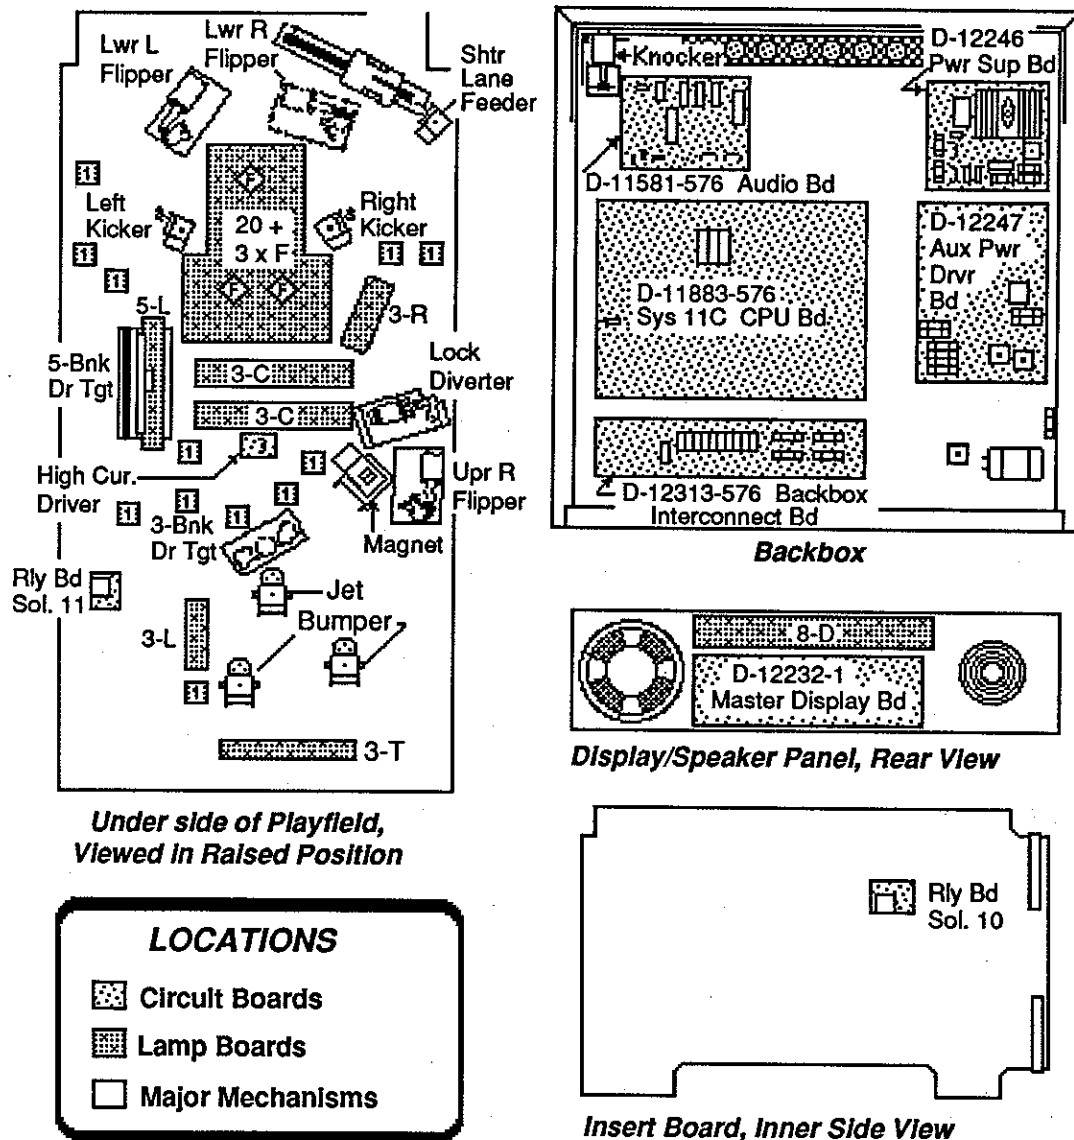
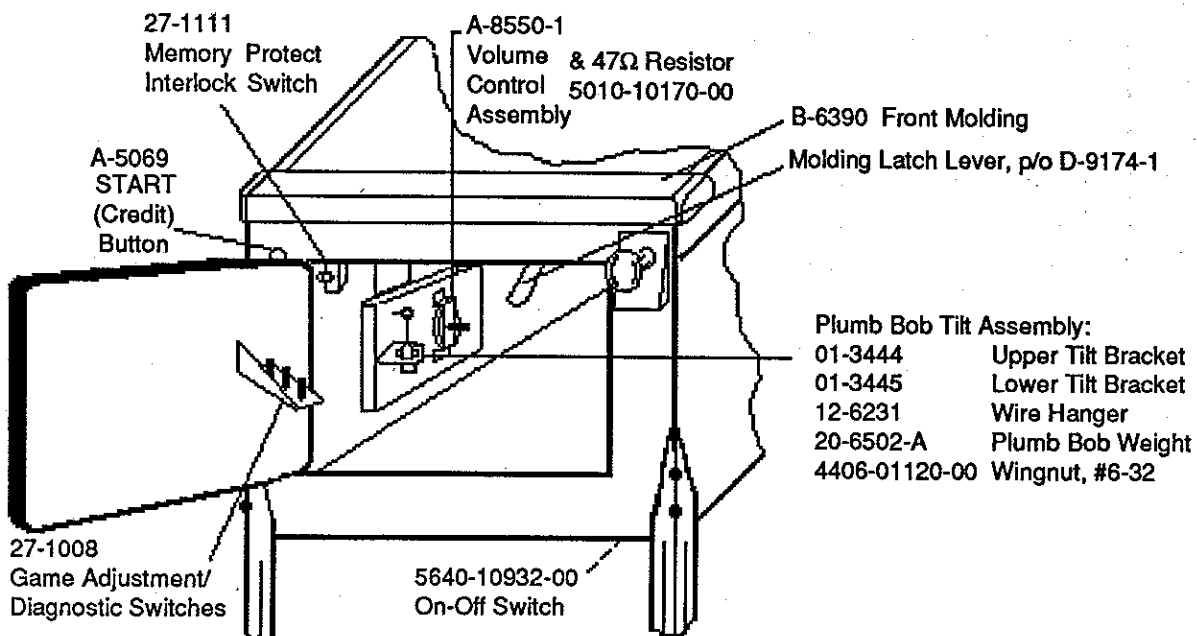

Figure 1. Locations Diagram - Game Circuit Boards and Major Mechanisms
Figure 2. Pinball Game Controls Locations
Figure 1 shows the locations of these circuit boards, as well as other devices especially located to make **ROLLERGAMES** a great game.
Figure 2 shows the locations of the following switches, except for the last one (CPU Diagnostic switch, which is shown in the Backbox portion of Figure 1, along the left edge of the CPU Board).
Figure 1 shows the location of the CPU Board switch (left edge of CPU Board, Backbox View).
7. Unlock and open the coin door. Locate the Molding Latch Lever (shown in Figure 2), and move the lever toward the left side of the game, to release the Front Molding. Lift the Front Molding off the playfield cover glass; return the Latch Lever toward the right, and close the coin door. Carefully slide the glass downward, until it clears the grooves of the Left and Right Side Moldings. Lift the glass up and away from the game, storing it carefully to avoid breakage.